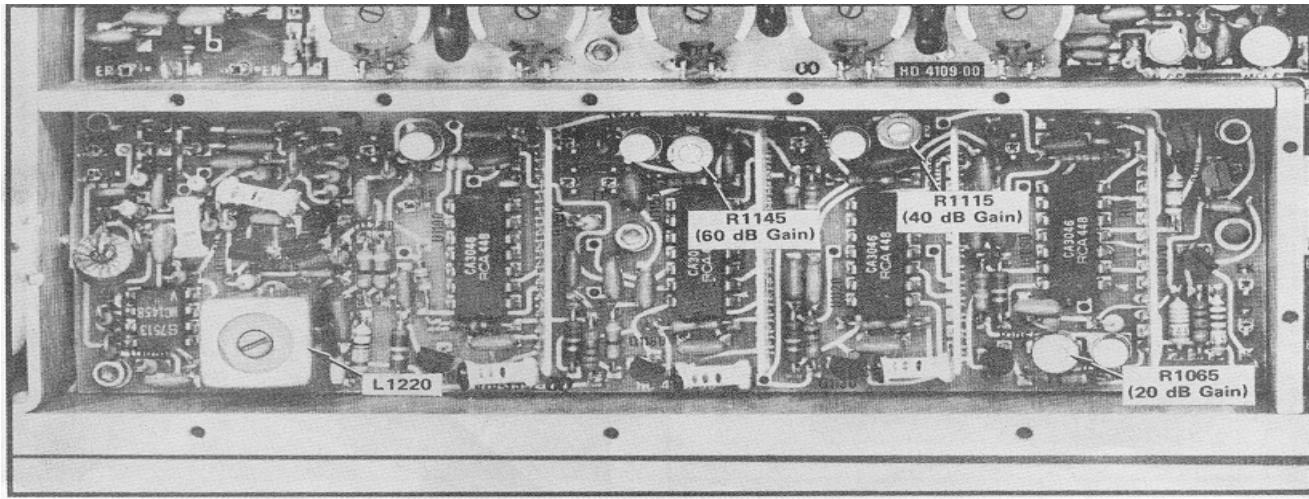
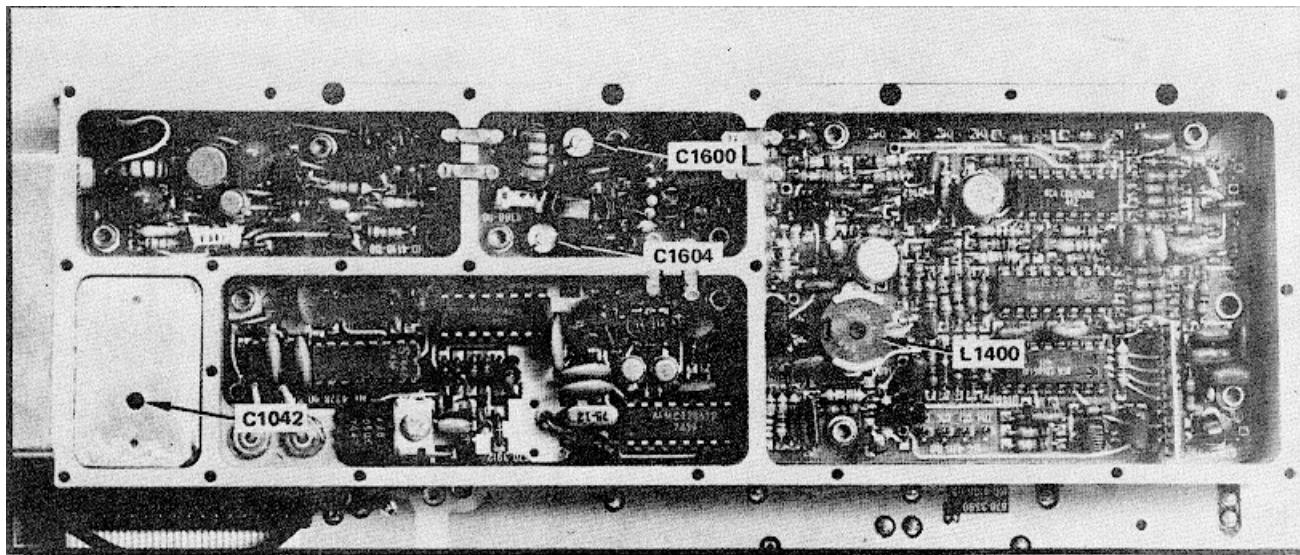

Fig. 4-13. Test points and adjustments on the Log/Lin Amplifier board.
Figure 4-14. Test points and adjustments on the 250 kHz IF Amplifier, 10.8 MHz Input Filter and 2nd Mixer.
3. Adjust the 20 dB Gain, with R1065 (Fig. 4-13), so the signal level equals the reference level (established in step 1).
5. Adjust the 40 dB Gain with R1115 (Fig. 4-13) so the display level equals the reference level.
6. Repeat the procedure to calibrate the 60 dB Gain with R1145 (Fig. 4-13).
c.---Adjust L1200 (Fig. 4-13), L1400, C1604, C1600, and C1042 (Fig. 4-14) for maximum response to the 500 kHz Calibrator signal.